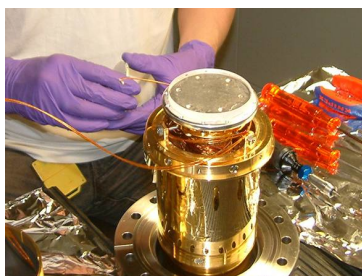

Figure 3.5: Sample cryostat with removed sample plate
4. Remove the old sample plate from the sapphire (Fig. 3.5). This may require some force if the indium foil is stuck to the sapphire, gently twisting may also help.